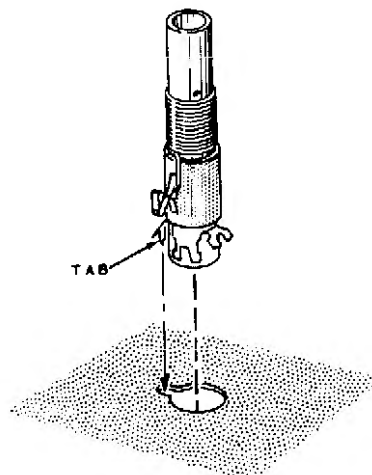

Figure 2
- () Install the RF coil (#40-602) at L1 as shown in Figure 2. Press the coil into the hole until both catches snap to lock the coil to the chassis.